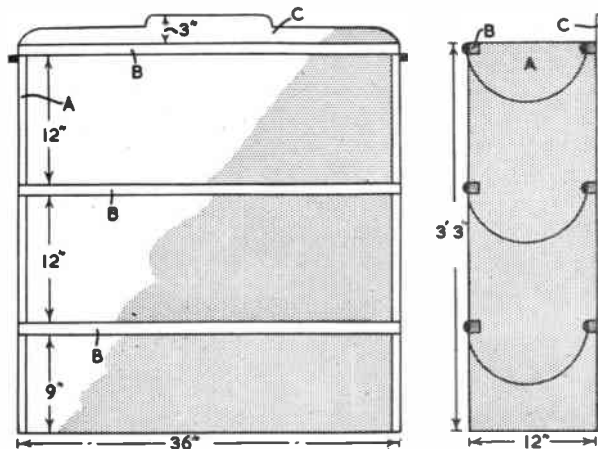

Fig. 1
Fig. 1 shows the main measurements. Note that the racks are spaced to give a clearance of 12 in. The back (C) is a piece of $\frac{1}{4}$ in. hardboard 3 ft. by 3 ft. 3 in., and is shaped at the top to improve the appearance. The sides (A) are cut from $\frac{3}{4}$ in. wood, and the rails (B) are pieces of 1 in. square stripwood 36 in. long.